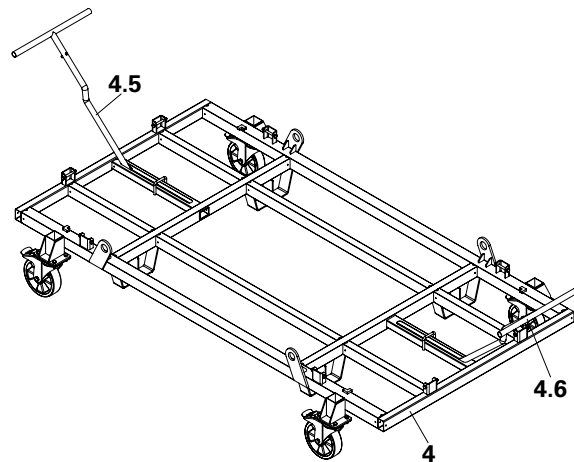

Fig. A1.04
The pallet AD (4) is designed with two integrated handles (4.5) and (4.6) that helps in easy transportation. (Fig. A1.04)